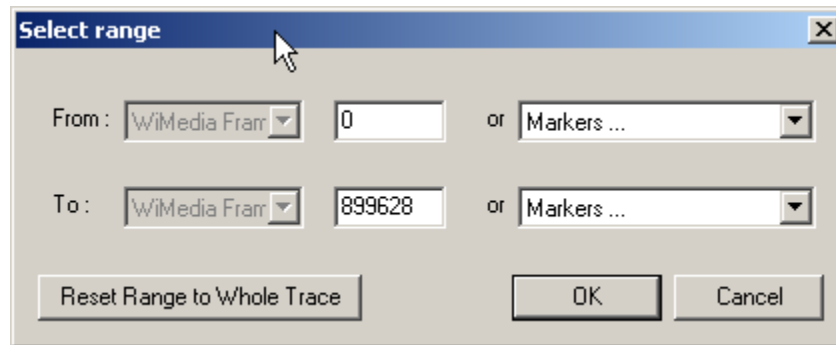

Figure 9.12 Select Range Dialog Box
Step 4 The Select Range dialog box appears (Figure 9.12).